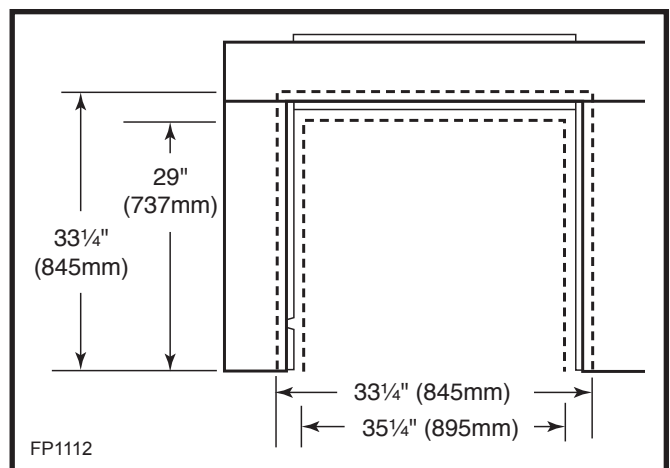

Fig. 25 The fireplace opening must conceal the inner edges of the trim as well as accommodate the insert.
- To allow insertion of the fire box, the opening must be at least 33 1/4" (845 mm) wide, and 29" (737 mm) high. To ensure coverage of the trim inner edges by the installed WinterWarm fire chamber, the opening must be not more than 35 1/4" (895 mm) wide, and 33 1/4" (845 mm) high. Figure 25 demonstrates these dimensions.